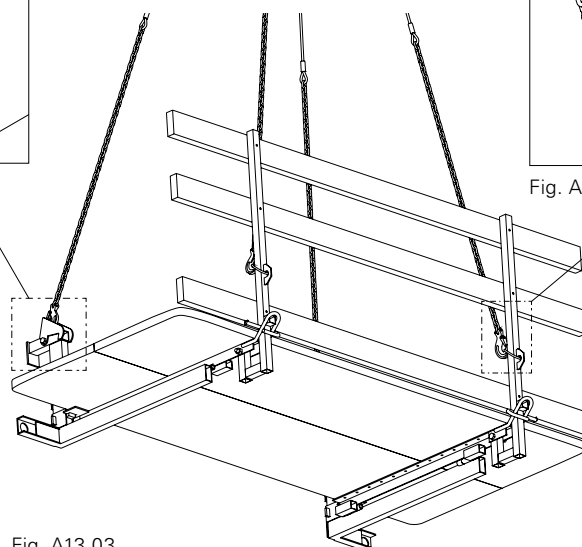

Fig. A13.03
5. Attach 4-sling lifting gear to the TRIO Concreting Platform. (Fig. A13.03 + A13.03a + A13.03b)